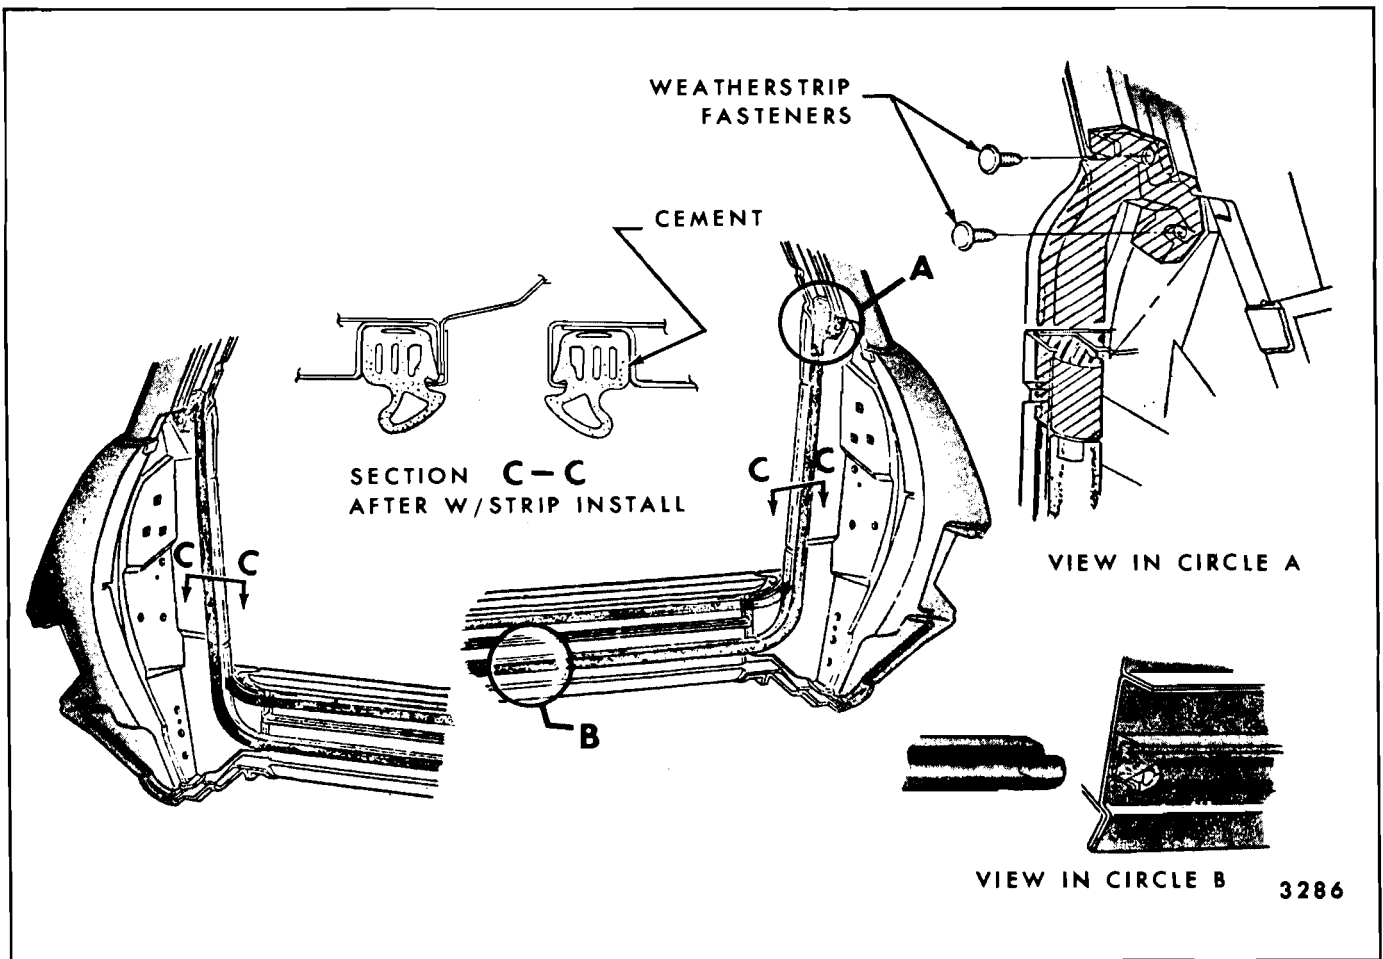

Fig. 9-53—Tail Gate Weatherstrip Installation
1. Open tail gate and remove fasteners and/or screws securing weatherstrip to right and left body pillars (at belt). (See Fig. 9-53).